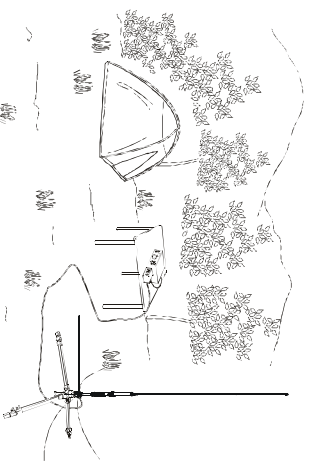

Figure 1
The ATAS-25 utilizes a manual tuning system which resonates the radiating element for lowest SWR without the need for expensive, inconvenient mono-band resonating whip assemblies. The ATAS-25 allows dual-frequency operation (on HF or 50 MHz and either 144 or 430 MHz); if two transceivers are combined via a suitable diplexer (not supplied). The ATAS-25 is designed to mount directly onto a standard camera tripod (not supplied); see Figure 1.
- Set up the tripod as low and level as possible, for maximum stability of the tripod/antenna assembly. SWR tends to be best with the base of the ATAS-25 near the ground, as well (Figure 1).